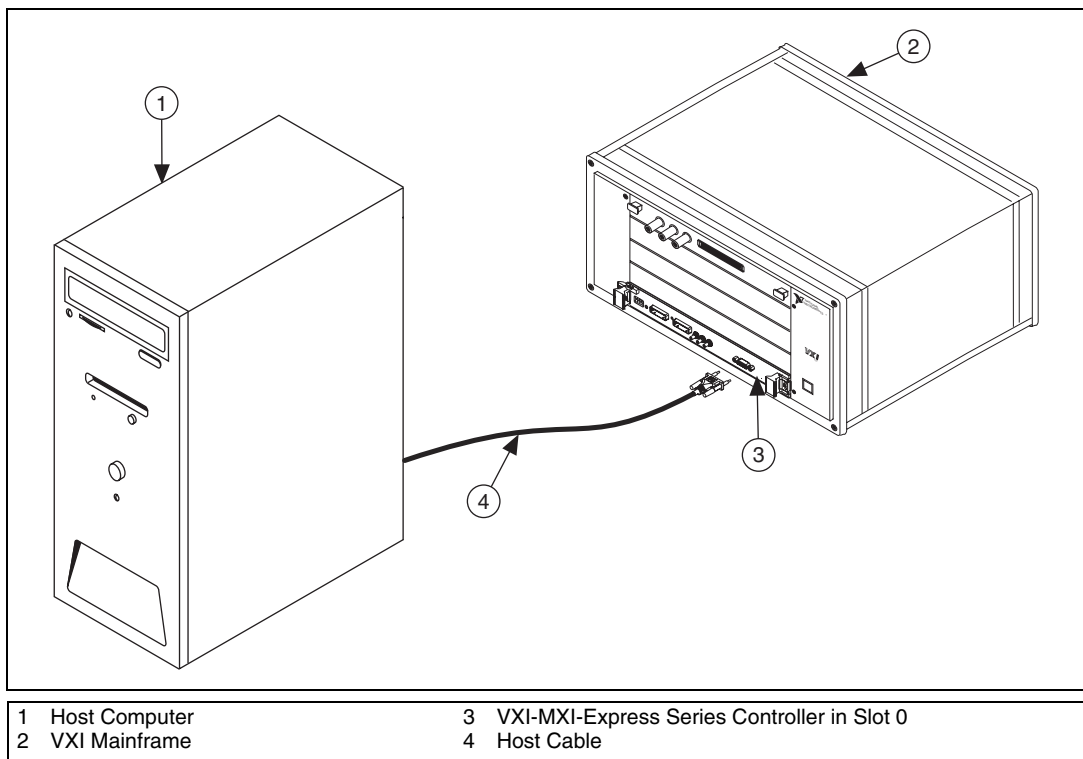

Figure 2. Host System with VXI-MXI-Express Series Controller
3. Insert the VXI-MXI-Express Series controller into the chassis in Slot 0, as shown in Figure 2.
Figure 2 shows a system that includes a PCI Express-based host computer and a VXI-MXI-Express Series controller.